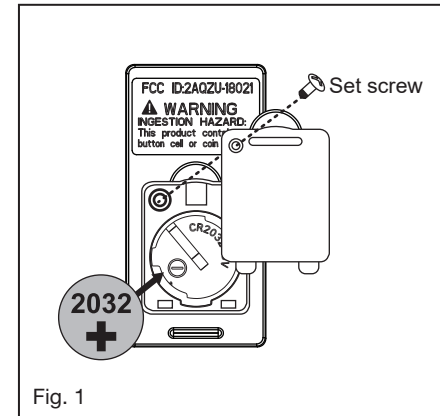

Fig. 1
1. Insert the controller into the ceiling mounting bracket with the flat side of the controller facing the ceiling. (Fig. 1) For best performance, make sure the Black Antenna and WIFI Antenna, on the end of the controller, remains extended and not tangled with any of the electrical wires.
- 1 Remove one of the three screws on the mounting hub located on the fan motor. Loosen the other 2 screws. (Do not remove) (Fig. 1)
- 1 Select a desired location. Use the wall plate to mark the location of the mounting holes. Plastic wall anchors or mounting screws are needed for this application. (Fig. 1)
Remove the panel from the transmitter and then install one 2032 battery (included). You need to use a screwdriver to open or close the battery cover. To prevent damage to transmitter, remove the battery if not use for long periods of time (Fig. 1)